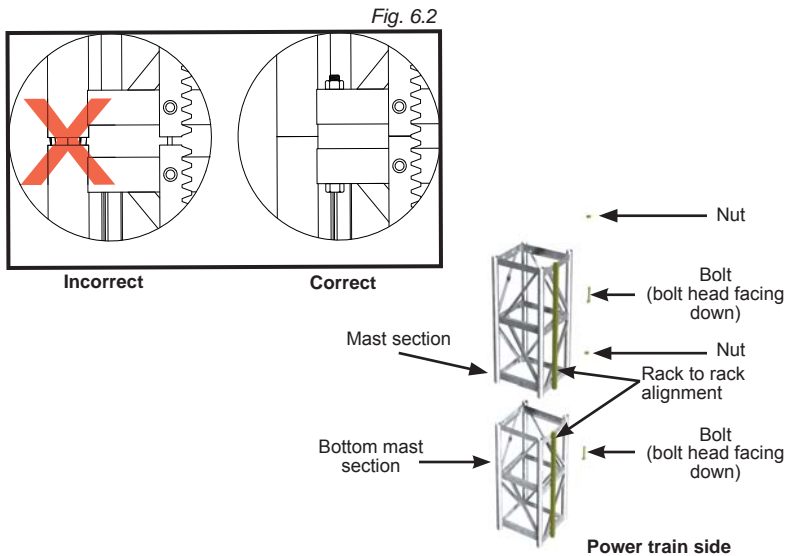

Fig. 6.3
- 8- Using 5/8" GR8 bolts assembled with 5/8" flange nuts or 5/8" lock washer and nut assemblies, bolt all four corners together, making sure that the bolt heads are facing down (fig. 6.3). Tighten the four bolt and nut assemblies to 120 lb-ft (162 N-m) of torque to secure the mast section in place.